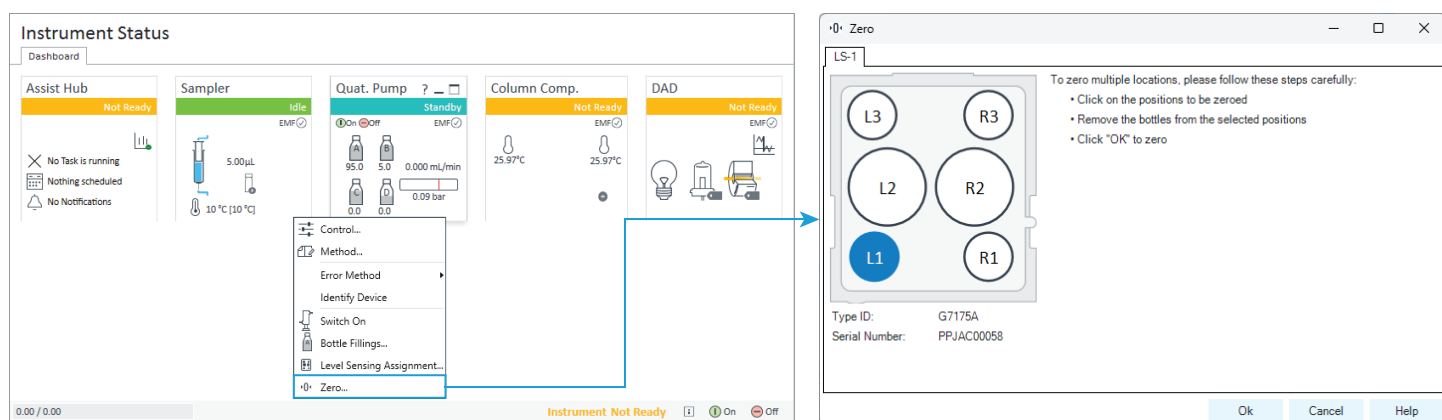

Figure 2. Zero of the bottle positions.
**Zero of the bottle positions:** After installation of the Level Sensing, a zero of the bottle positions is performed (see Figure 2). The bottle positions are named L1-L3 from front to back on the left side, and R1-R3 from front to back on the right side. The bottle positions can either be zeroed individually, or all positions can be selected.